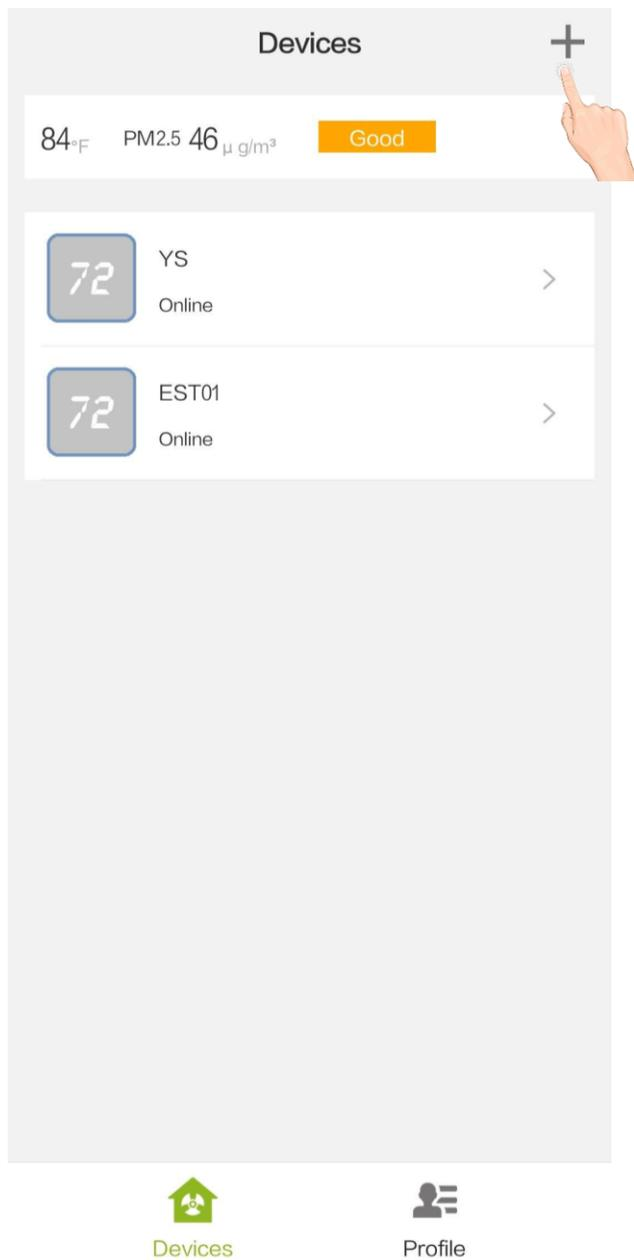

Fig. 1
- Press **+** icon (see Fig.1) on the upper-right corner of the App.